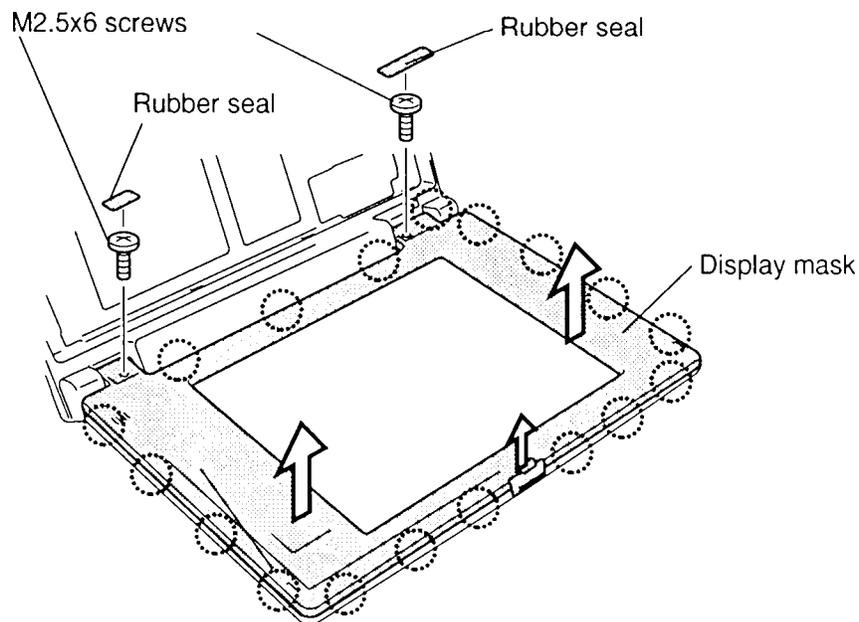

Figure 4-22 Removing the display mask
To remove the T2150 series display mask, follow the steps below and refer to figure 4-22.
3. Remove **two rubber seals** from the display hinges to expose **two screws** securing the **display mask** (figure 4-22).
4. Remove the **two M2.5x6 screws** that were covered by the rubber seals (figure 4-22).
5. Carefully insert your fingers between the mask and the LCD panel and pry open the latches. Start with the **six latches** across the top of the display mask (figure 4-22).
6. Continue unlatching the mask along the **sides (four latches on each side)**, at the bottom (**three latches**) and display supports (figure 4-22). Latches at each display support are not indicated in the illustration.
To install the T2150 series display mask, follow the steps below and refer to figure 4-22.
1. Set the **display mask** in place and secure the latches beginning with the display supports (figure 4-22).
2. Continue along the bottom of the display (**three latches**), along the sides (**four latches**), and across the top (**six latches**) (figure 4-22).
3. Secure the display mask with **two M2.5x6 screws** at the display hinges (figure 4-22).
4. Attach the **two rubber seals** at each display hinge to cover the screws (figure 4-22).